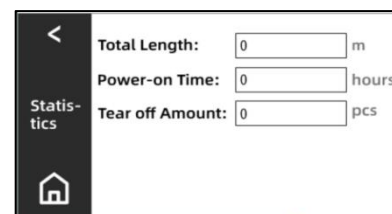

Figure 7
- 1) Tap  on the home page to enter this page. (Figure 7)